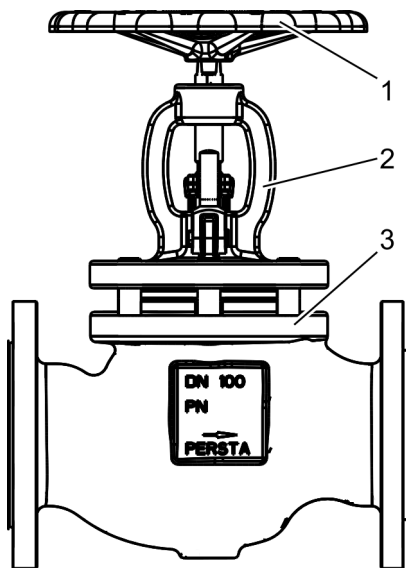

Fig. 13: Turning the handwheel
6. ➤ Turn the handwheel (Fig. 13/1) in the closing direction ("Shut").
⇒ The bonnet (Fig. 13/2) is lifted off of the body (Fig. 13/3).
7. ➤ Position two spacers of the same height opposite each other between the body (Fig. 13/3) and the bonnet (Fig. 13/2).
8. ➤ Turn the handwheel (Fig. 13/1) in the opening direction ("Open").
⇒ The bonnet (Fig. 13/2) is lowered onto the spacers.
9. ➤ Ensure that the bonnet (Fig. 13/2) rests on the spacers parallel to the body (Fig. 13/3).
10. ➤ Turn the handwheel (Fig. 13/1) in the opening direction.